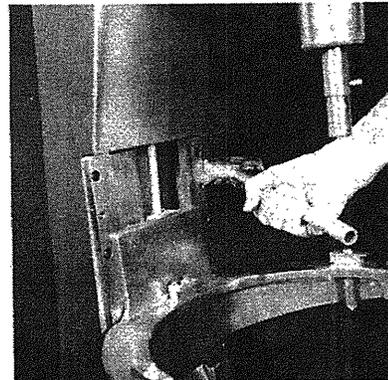

Fig. 6-6
- D. Raise bowl support and use lead mallet to tighten support (Fig. 6-6). Tighten top two screws, right side.